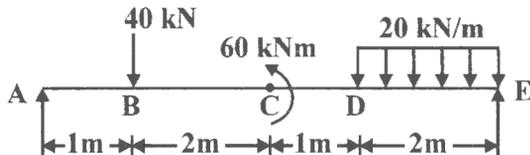

Fig. 1
- (b) The simply supported beam shown in Fig.1 has a flexural rigidity  $EI = 8 \times 10^6 \text{ Nm}^2$ . Find deflection at 'C' and 'D'. 10